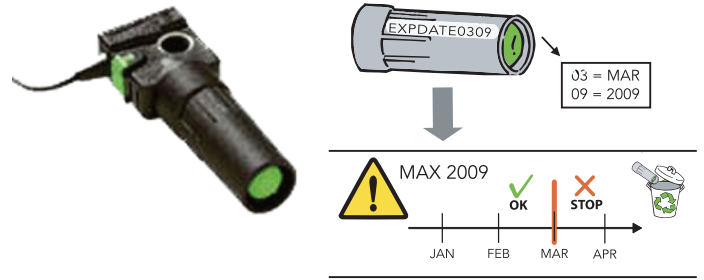

Fig 1. United Molders automatic valve.
6.1 For Automatic models fitted with United Molders automatic valve with water sensing cartridge (Fig 1.)